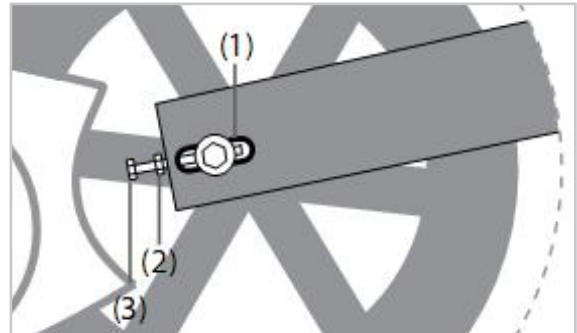

FIGURE 12
2. Loosen the screw(1) with a wrench and loosen nuts on both sides of bicycle as shown in Figure 12.
4. Tighten the nuts (2) on both sides of the bicycle, and then tighten the nut (1).